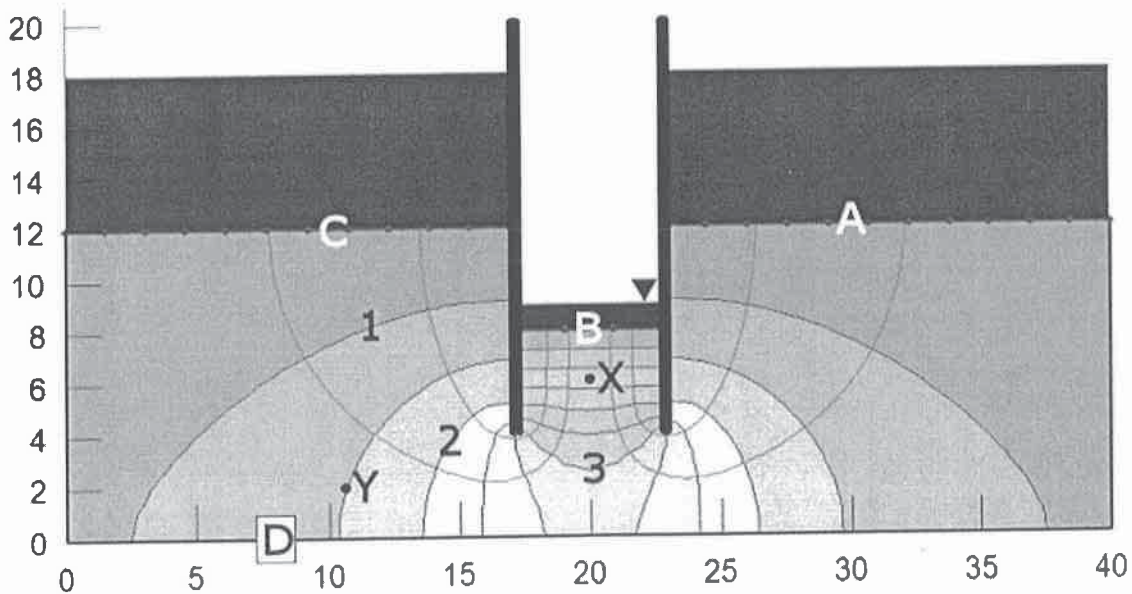

Figure Q5-1.
1. Flow analysis for a sheet pile wall was performed using a finite element program as shown below in **Figure Q5-1**.